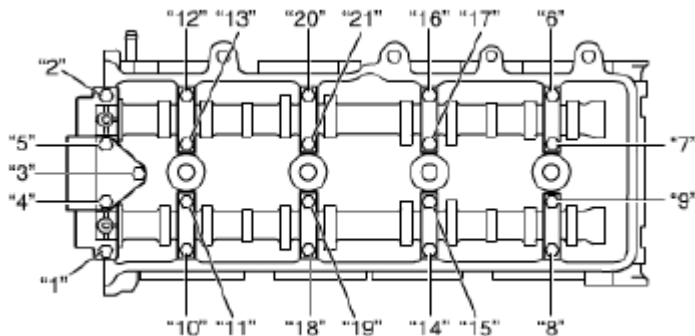

Fig. 92: Identifying Camshaft Housing Bolts Sequence
2. Loosen camshaft housing bolts in such order as indicated in **Fig. 92** and remove them.